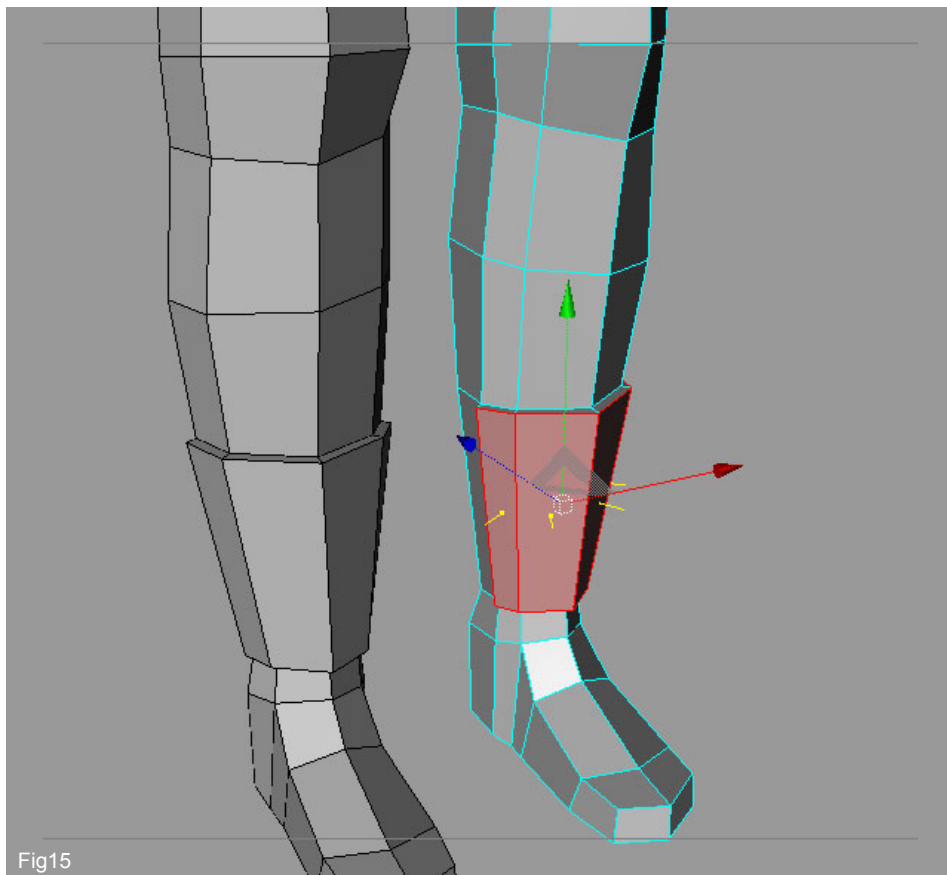

Fig15
15. Next item we will create are the shin guards. Select the group of poly's as seen in Fig15 and extrude them.